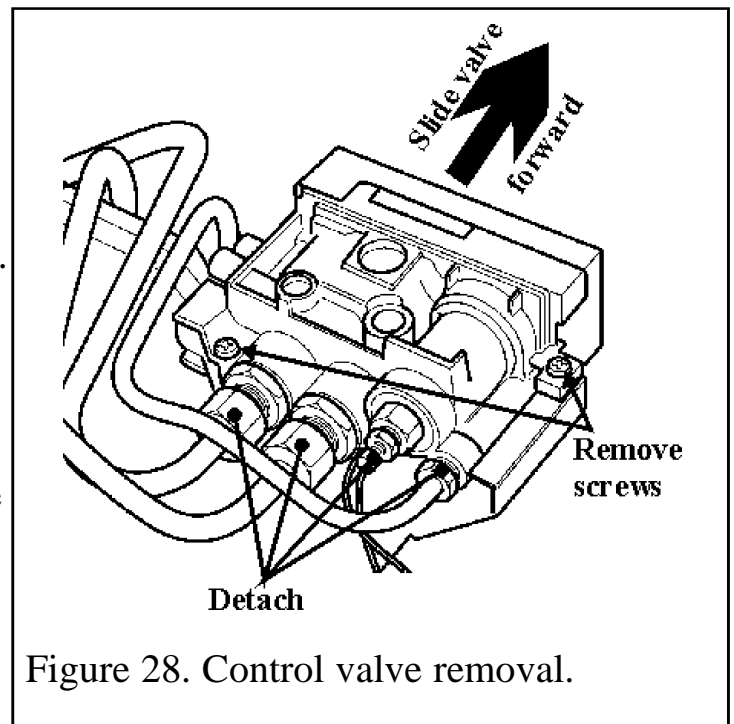

Figure 28. Control valve removal.
- Remove the two mounting screws on the underside of the gas valve (See figure 28).